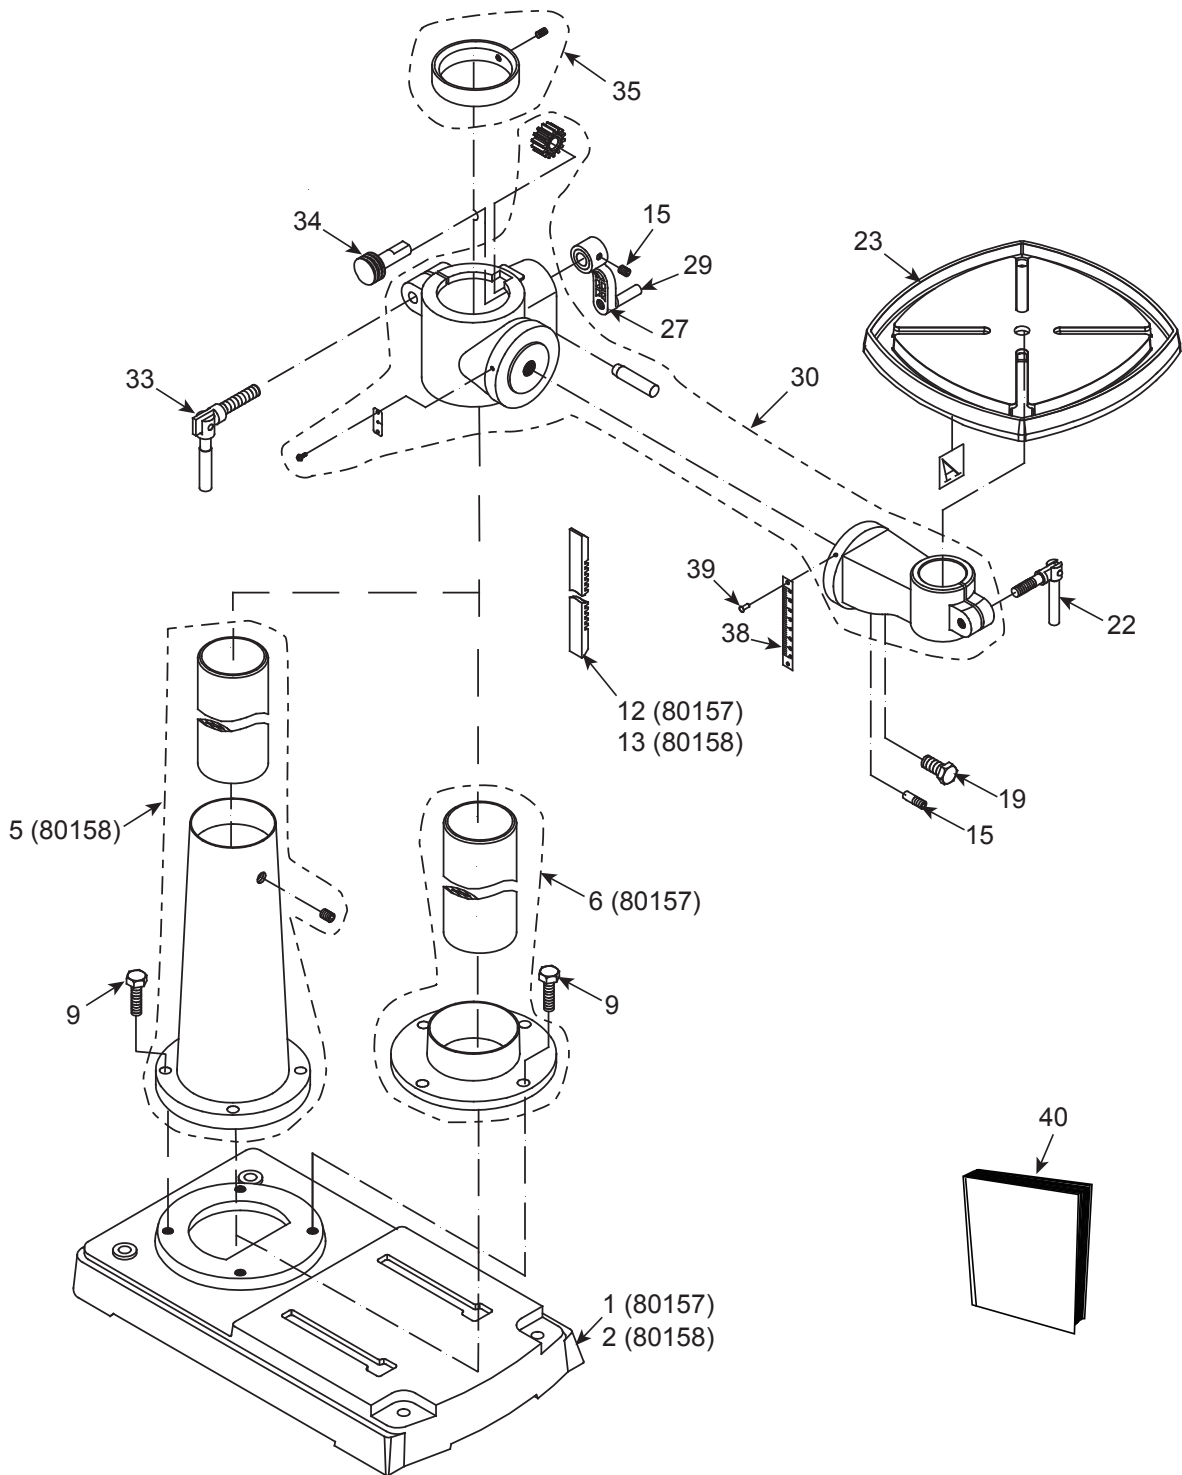

Figure 7 - Replacement Parts Illustration for Base
Refer to Figure 7.
Refer to Figures 7 and 8.
- Apply lubricant to rack and pinion gear (Figure 7, Ref. Nos. 12/13 & 34) on column and table assembly.